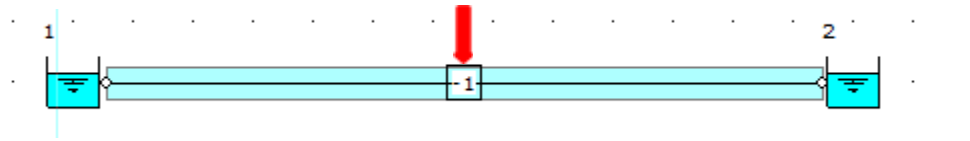

Figure 12: Highlighted Pipe.
13. Let us now edit the default pipe data by selecting pipe number -1. You should now see that pipe number -1 is highlighted on the flowsheet (Figure 12).